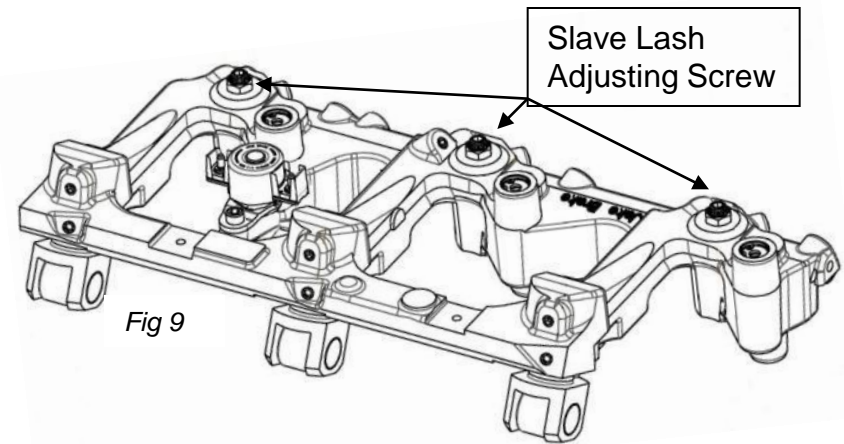

Fig 10
- Carefully install the engine brake housings in their original positions (see *Fig 10*). This will ensure that the contact area of the master piston roller and the camshaft lobe stay matched together.